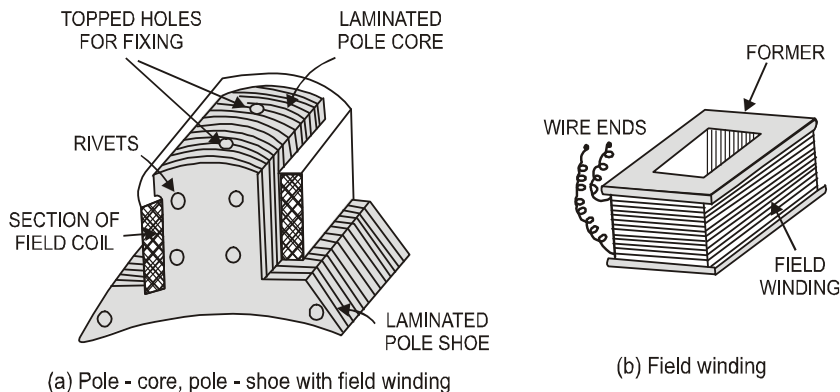
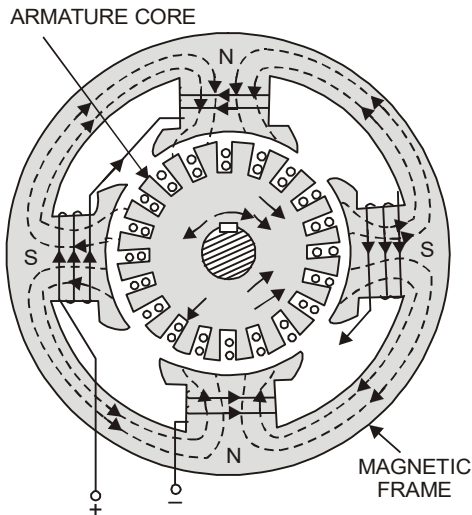

Fig. 4.47: Pole with field winding
Fig. 4.48: Stator and armature
Usually, the pole core and pole shoes are made of thin cast steel or wrought iron laminations which are riveted together under hydraulic pressure as shown in fig.4.47 (a).
3. **Field or Exciting coils :** Enamelled copper wire is used for the construction of field or exciting coils. The coils are wound on the former [see fig 4.47(b)] and then placed around the pole core as shown in fig 4.47(a). When direct current is passed through the field winding, it magnetises the poles which produce the required flux. The field coils of all the poles are connected in series in such a way that when current flows through them, the adjacent poles attain opposite polarity as shown in fig. 4.48.